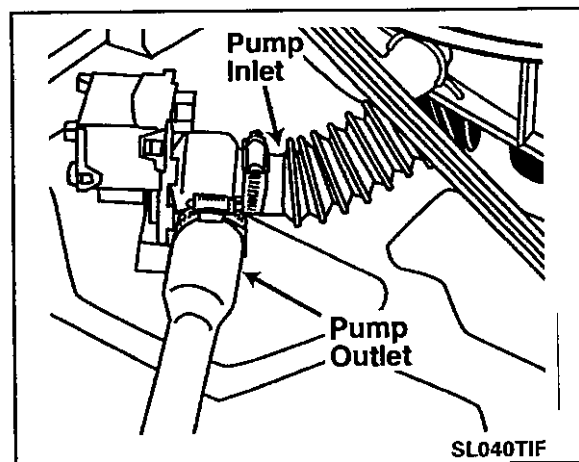

Figure 6-8
The pump assembly can also be disassembled without removing the hoses from the pump (*Figure 6-8*).
2. Disconnect the drain hose from the existing pump in the washer (*Figure 6-8*).